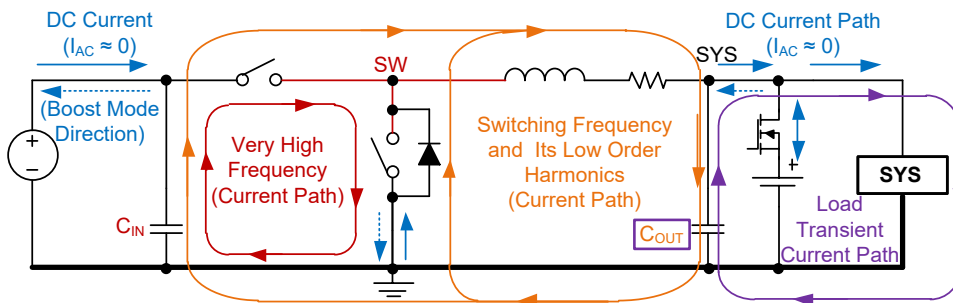

Figure 20. The Paths and Loops Carrying High Frequency, DC Currents and Very High Frequency (for Layout Design Consideration)
The switching node (SW) creates very high frequency noises several times higher than f_{sw} (1.5MHz) due to sharp rise and fall of the voltage and current in the switches. To reduce the ringing issues and noise generation designing a proper layout is important to minimize the current path impedance and loop area. A graphical guideline for the current loops and their frequency content is provided in Figure 20. The following considerations can help making a better layout.